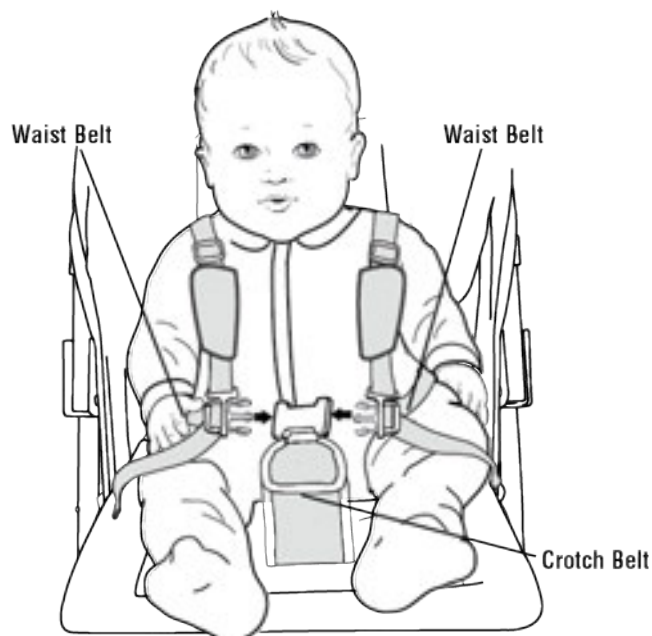

Fig. 15
14. Place your child in the stroller. Position the crotch belt between your child's legs. Pull shoulder straps over child's arm and shoulder and fasten both strap ends to the restraint system. Fasten both waist belts to the buckle on each side of the crotch belt. Make sure you hear a "click" on both sides. Check to be sure the restraint system is securely attached by pulling it away from your child. The restraint system should remain attached. (Fig 15)